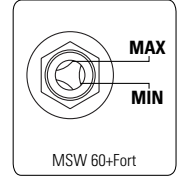

FIGURE 8.7
Oil (1) (oiled compressors) (product MSW 60+Fort) (Figure 8.7)